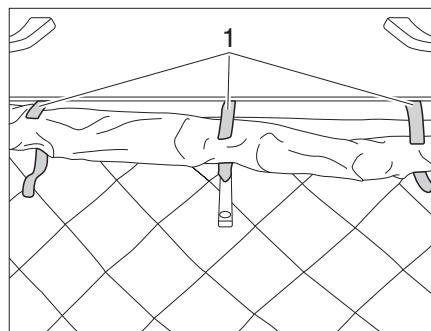

Fig. 17 Opening the Velcro
- Open the three Velcros (Fig. 17,1) of the cloth bellows.
- Roll up the cloth bellows in area of the locking mechanism with care and fasten with the three Velcros (Fig. 17,1).